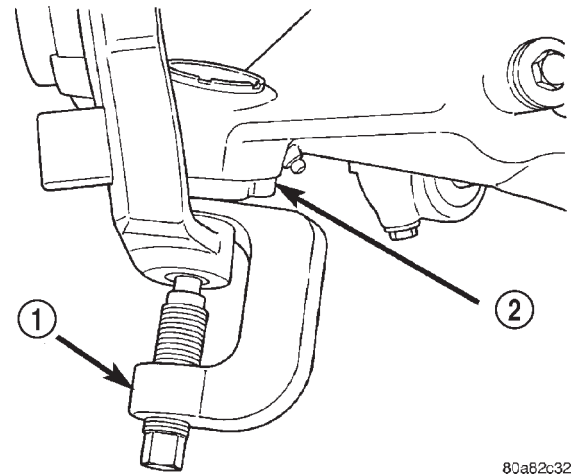

Fig. 8 Lower Ball Joint
(8) Remove the lower ball joint cotter pin and nut. Separate the ball joint from the knuckle with Remover C-4150A (Fig. 8) and remove the knuckle.
(9) Remove the hub/bearing from the steering knuckle.